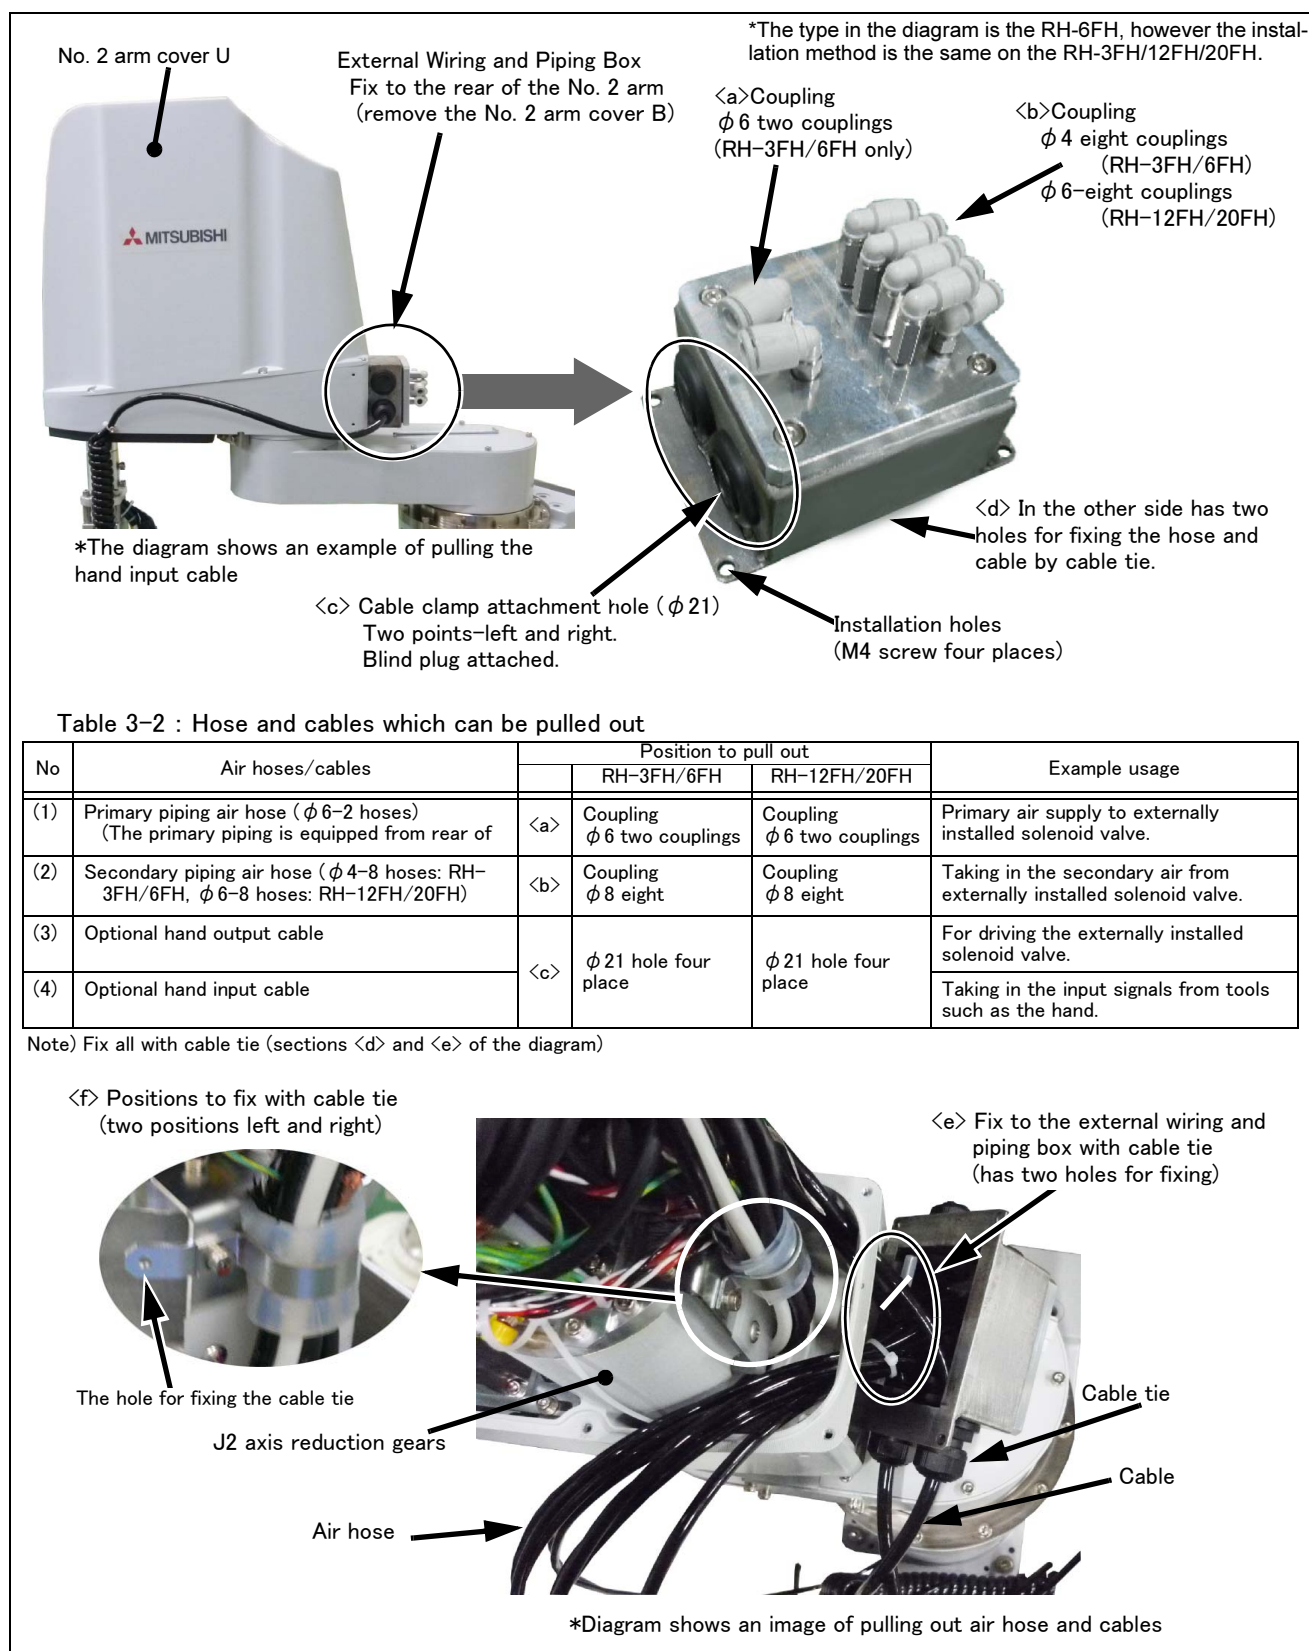

Fig.3-8 : External Wiring and Piping Box
Fig. 3-8 shows the installation procedure for the external wiring and piping box. The procedure is the same in RH-3FH/6FH/12FH/20FH. Remove the No. 2 arm cover B and install this option using the same screw holes. The installation procedure is shown below.
- 4) Fix the air hoses and cables to the hole inside of this box by using the attached cable tie. (section <e> of Fig. 3-8)
Fix the hoses and cables to the hole shown in section <f> of Fig. 3-8 using cable tie. There are 2 holes, located left and right.